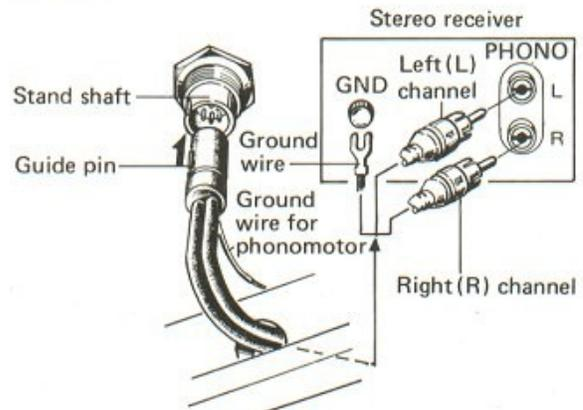

Fig. 11
- Connect the output cords to the tonearm's stand shaft (see Fig. 11). Align the guide pin on the output cord connector with the slit in the end of the stand shaft, and then insert. The short black wire protruding from the connector is the ground wire for the phonomotor.
- Connect the other end of the output cords to the input terminals on the stereo receiver (amplifier). The white plug (L) is connected to the left channel, and the red plug (R) to the right channel. The black wire with the metal contact at the end is the ground wire. Connect it to the receiver's ground terminal.